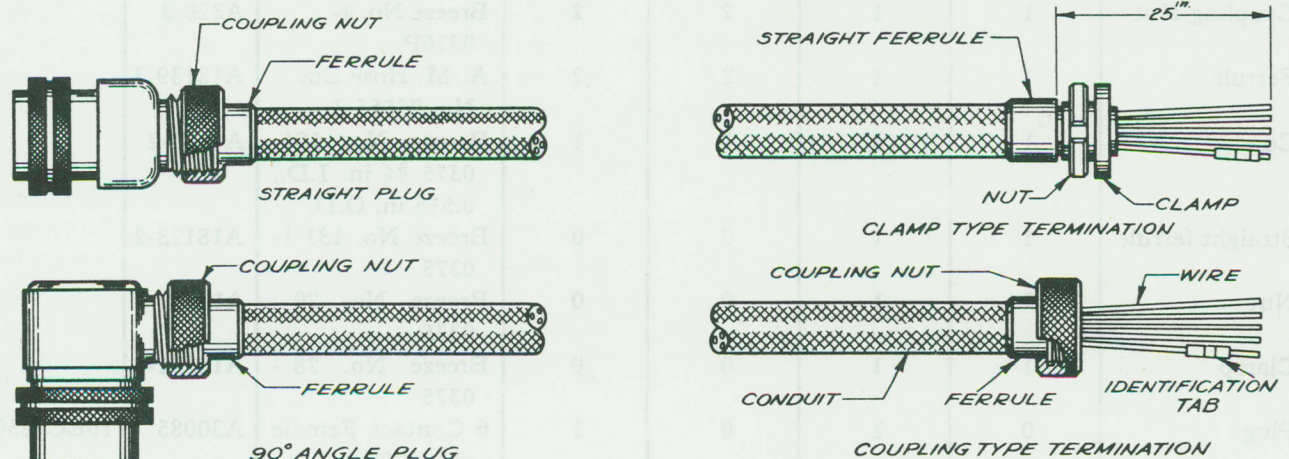

Figure 2-1. Type of Cable Terminations Available
(1) The cables required for the MN-53B RECEIVER INSTALLATION are not furnished as part of the equipment but may be ordered after the length and terminations of each cable required for the installation are determined.
(2) Each cable is housed in a shielded flexible conduit. The wire used is in accordance with specification JAN-C-76, Type WL, with cotton outer braid except that the wire carrying the audio output of the receiver to the junction box and to the aural indicator is further protected by a braided copper shield and an insulating braid over the shield.
(3) Cables requiring plug termination are available with straight plug or with 90° plug. See figure 2-1.
(4) Cables ordered for connection to the junction box may have either a clamp type or coupling nut type connector and 25 inches of wire will be allowed for connection to the terminal strip, unless otherwise specified. See figure 2-1.